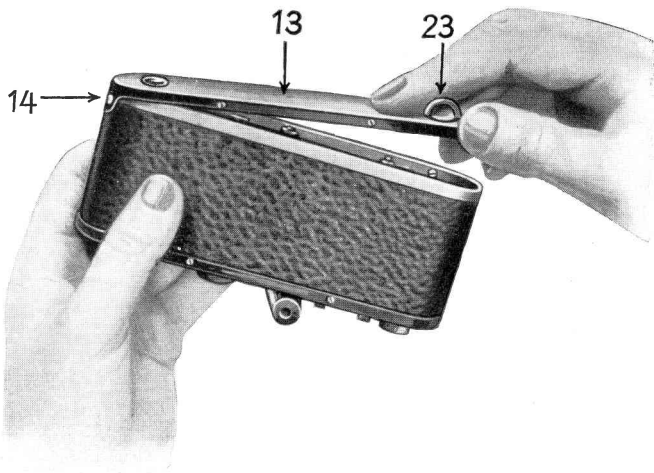

Fig. 2
23. Swivel (not visible) for opening and closing camera lid (see Fig. 2).
3. The camera having been already opened as per Fig. 2 and the withdrawn spool chamber loaded, now withdraw also the receiving spool **M** (counter spool).